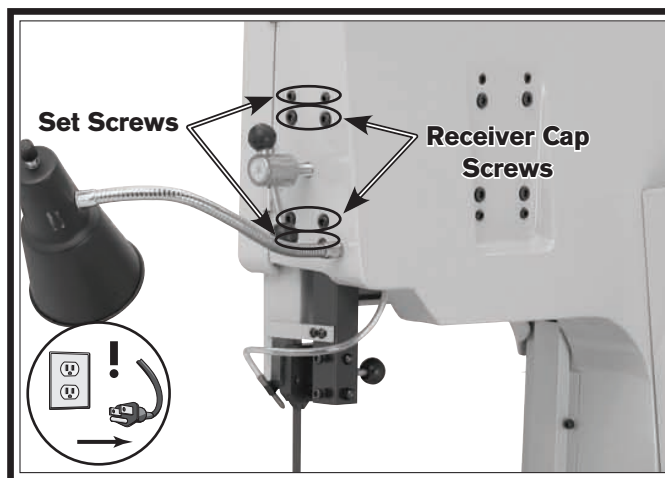

Figure 49. Guide post alignment controls.
6. Using a 6mm hex wrench, loosen the four receiver cap screws (see **Figure 49**).